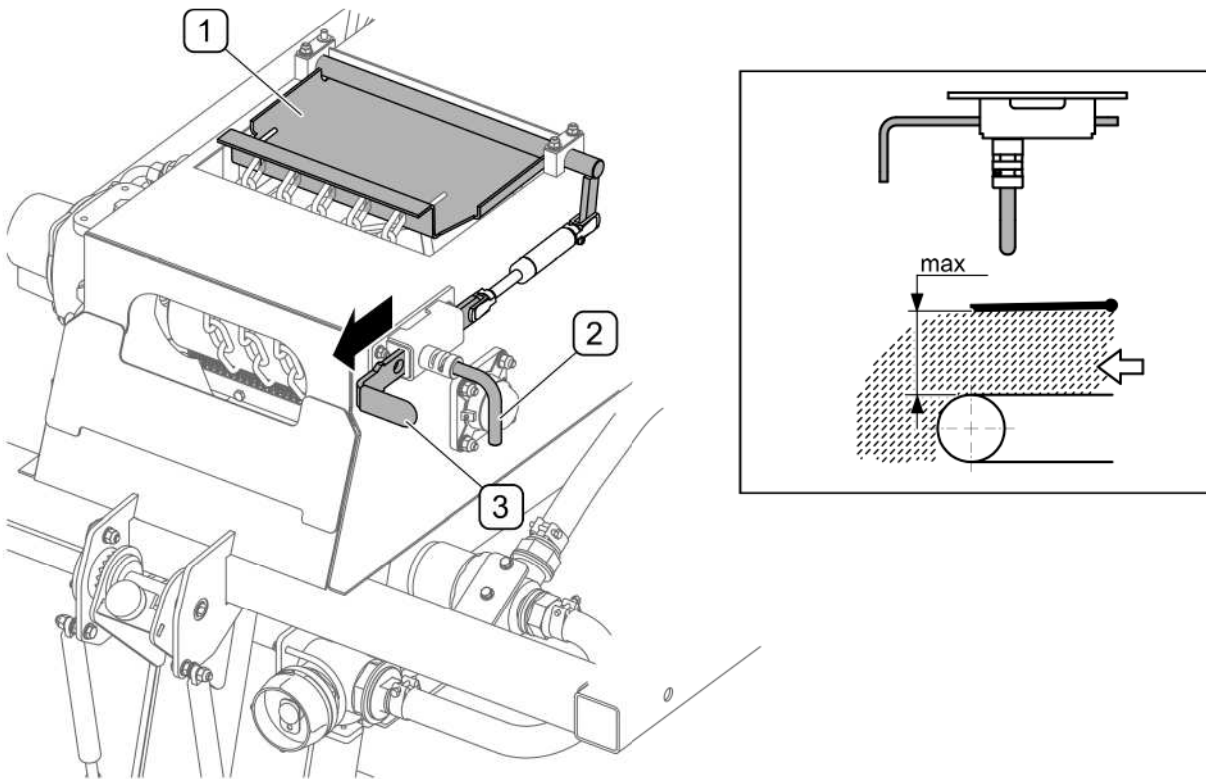

FIG. 4.33 **Setting the belt conveyor barrier for unloading**
- set belt conveyor barrier to maximally open position (FIG. 4.33),
To set the barrier (1) for unloading, (FIG. 4.33) turn and pull pin (2) and raise the barrier by pulling the slide (3). The barrier is set to maximally open position (FIG. 4.33) only when material is being unloaded from the tank.